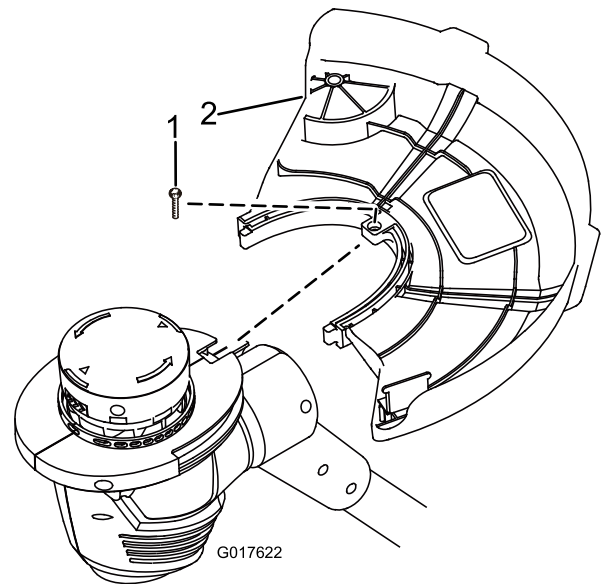

Figure 6
1. Remove the Phillips head screw taped to the guard (Figure 6).
2. Slide the guard onto the trimmer base as shown in Figure 6.